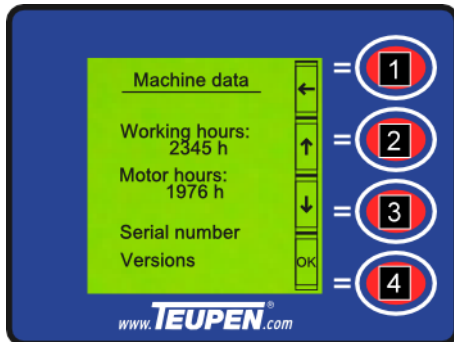

Fig. 63: Machine data
1. → Select a submenu with the [function keys] (Fig. 63/2 and 3).
2. → Use the [function key] (Fig. 63/4) to jump to the selected submenu.
3. → Use the [function key] (Fig. 63/1) to jump back to the [Main menu].